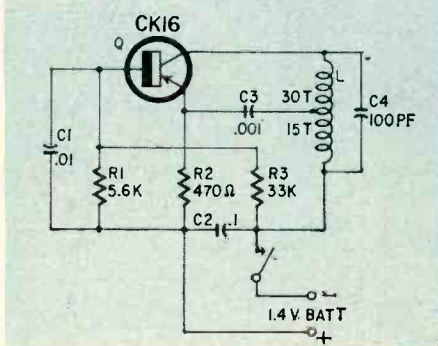

Fig. 2—Practical circuit with all values.
R. H. Dilworth, who developed the pocket personal radiation monitor now in production for the Atomic Energy Commission, and W. Greatbatch, who developed the artificial Pacemaker for the heart, were consulted regarding suitable circuitry and sources of supply of components. Following their suggestions, we were able to construct our first radio transmitter. The circuit is shown in Fig. 2. It is a keyed oscillator that broadcasts an unmodulated signal at about 3 mc.